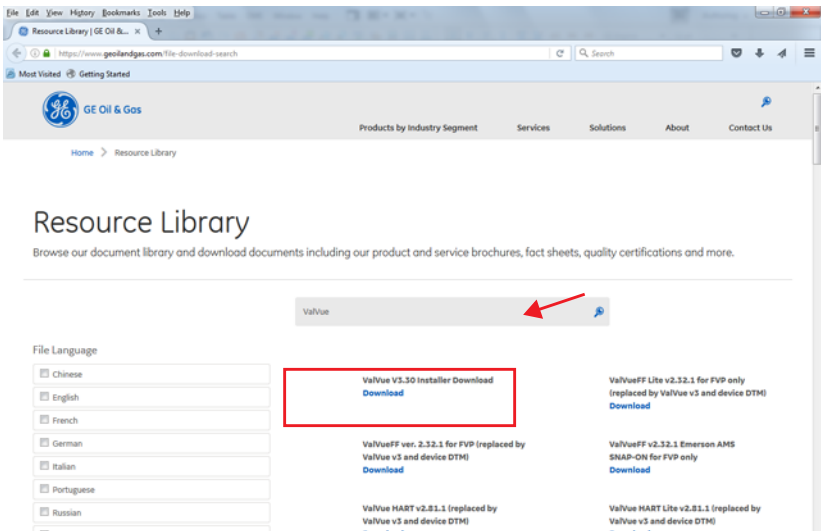

Figure 9 Download Center: Search for ValVue
- 1. Go to the *Resource Library* (<https://www.geoilandgas.com/file-download-search>) and enter *ValVue* in the search field (arrow in Figure 9).
The results appear (red box in Figure 9).